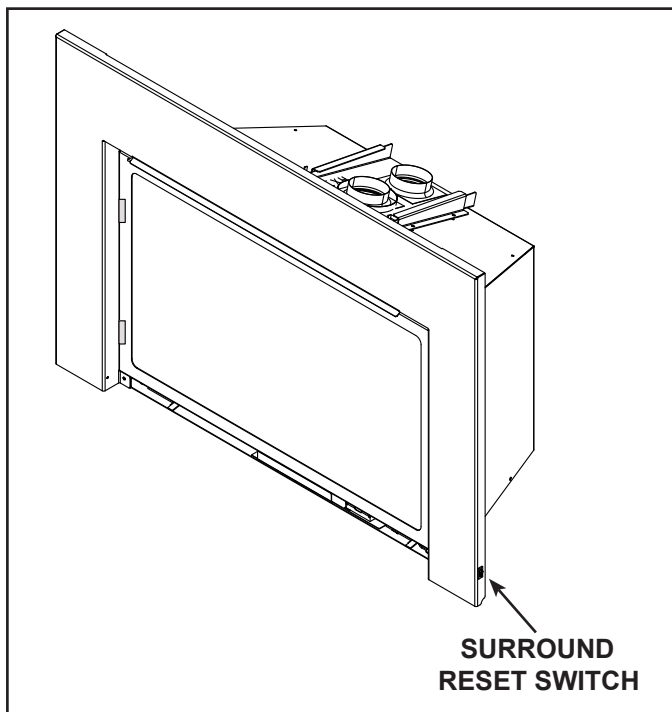

Figure 3.10 Surround Reset Switch
- Toggle the appliance reset switch to the off position . See Figure 3.10 for reset switch location.
- Wait five (5) minutes to allow possible accumulated gas to clear.